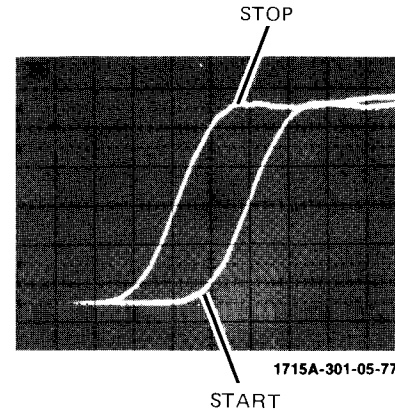

Figure 7. Rise Time Measurement
12. Adjust TIME INTERVAL STOP to place the 90% point on the same vertical graticule line. (See figure 7.)